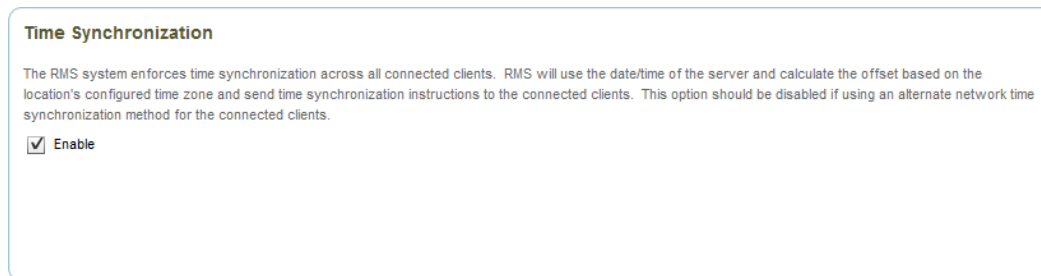

FIG. 371 Time Synchronization page
Select **Time Synchronization** under *System Configuration* in the Configuration menu to open the *Time Synchronization* page (FIG. 371):
1. Select **Time Synchronization** under *System Configuration* in the Configuration menu to open the *Time Synchronization* page (FIG. 371 on page 224).